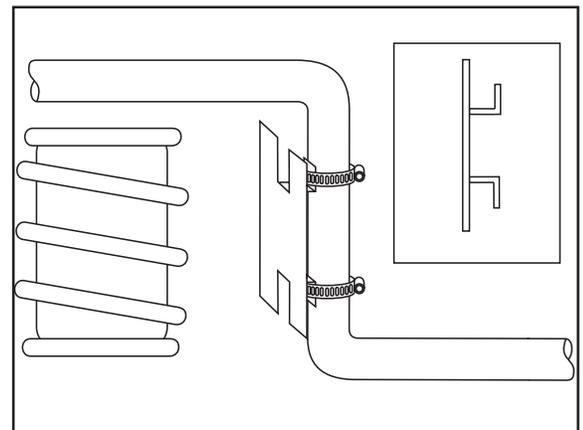

Figure 1
2. Bend the heat shield tab out at a 90° angle and again half the distance up at a 90° angle to form an "L" shape. Repeat on the other tab (Figure 1A). Position heat shield and insert the heat shield tabs beneath the two radiator clamps. Tighten the clamps (Figure 1).